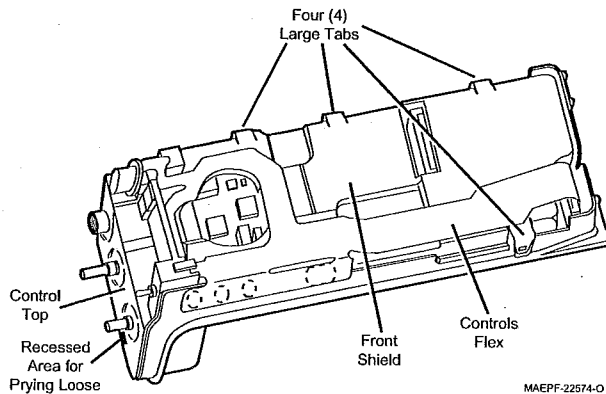

Figure 3.5
9. As a unit, separate the control top, the front shield, and the controls flex from the chassis and circuit boards (See Figure 3.5).